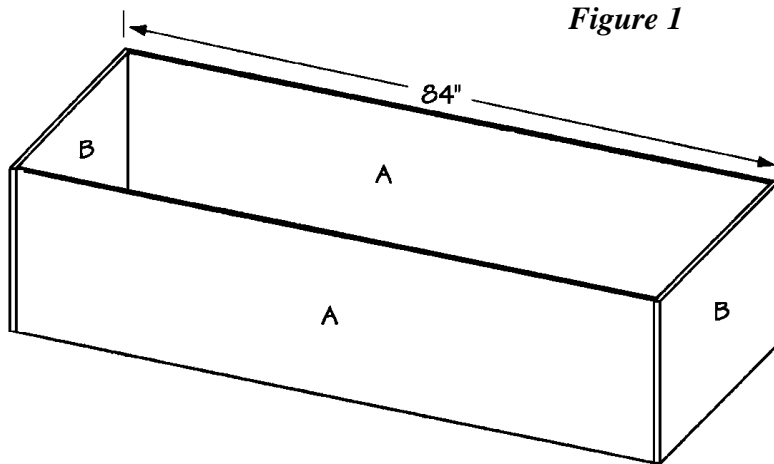

Figure 1
1. Cut two sides (A) from 3/4-inch plywood, each measuring 23-1/4 x 82-1/2 inches.
2. Cut two top/bottoms (B) from 3/4-inch plywood, each measuring 23-1/4 x 37-1/2 inches.
3. Place the two sides (A) on edge on a level surface, 36 inches apart. Fit the top/bottoms (B) over the ends of the sides (A) to form a rectangle, measuring 37-1/2 x 84 inches, as shown in *Figure 1*. Apply glue to the meeting surfaces and screw through the top/bottoms (B)